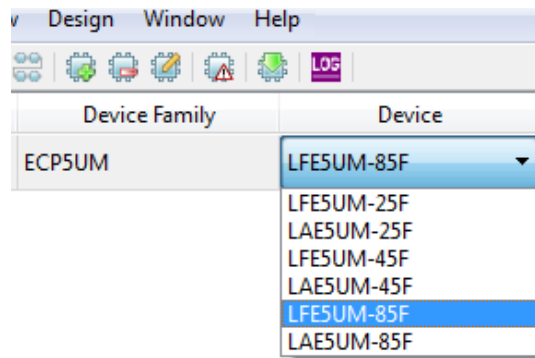

Figure 4.1. Device Selection
3. In the Diamond Programmer main interface, select **ECP5UM** in **Device Family** and **LFESUM-85F** in **Device** as shown in Figure 4.1.